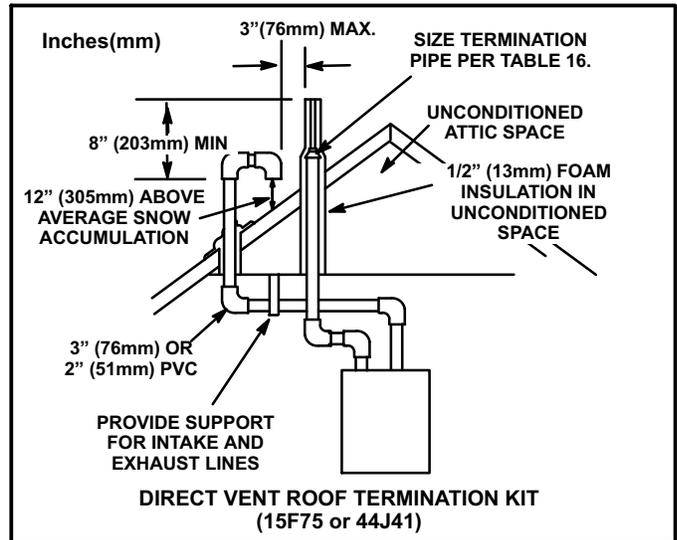

FIGURE 35
Intake and exhaust pipes may be routed either horizontally through an outside wall or vertically through the roof. In attic or closet installations, vertical termination through the roof is preferred. Figures 35 through 41 show typical terminations.
3. On roof terminations, the intake piping should terminate straight down using two 90° elbows (See figure 35).